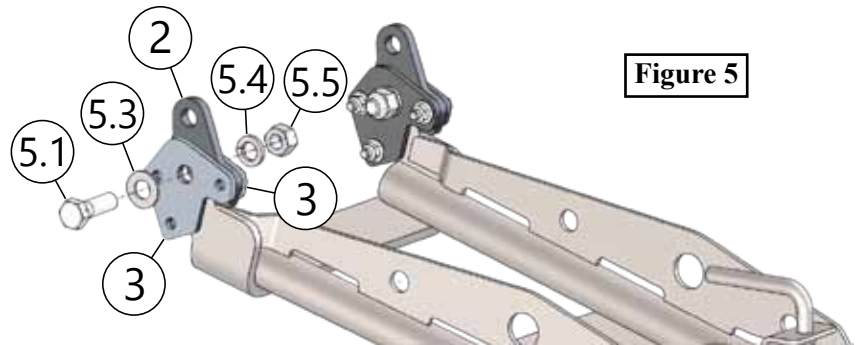

Figure 5
2. Align the two tab supports (3) up to the lift tab (2) and fasten bolt (5.1), flat washer (5.3), lock washer (5.4) and nut (5.5) as shown in **Figure 5**.